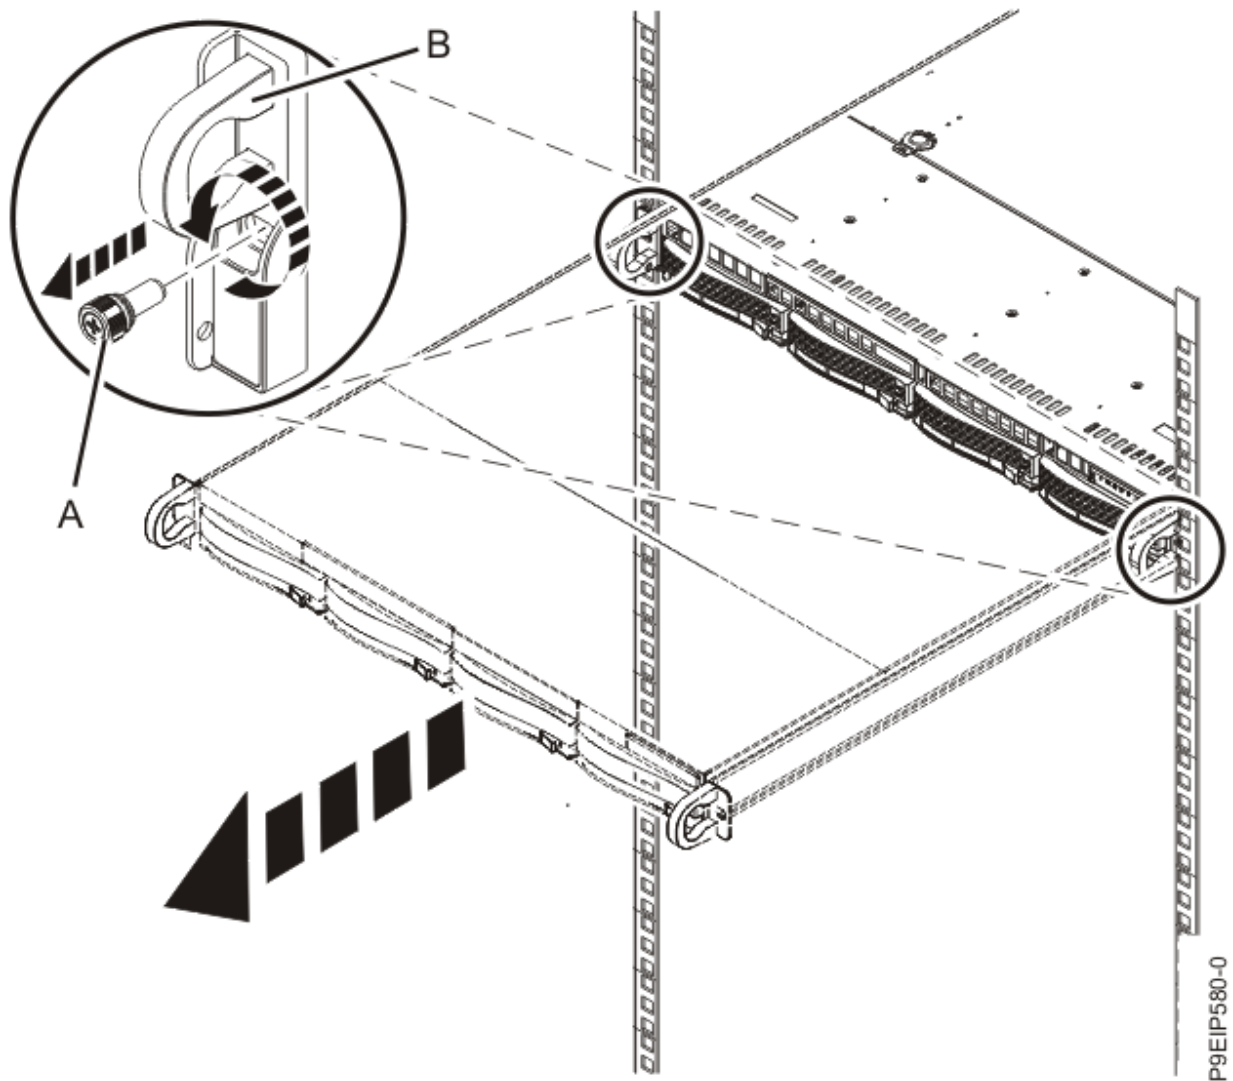

Figure 73. Removing the front screws and removing the system from the rack
2. Remove the front screws **(A)** that secure the system to the rack from both sides of the system as shown in Figure 73 on page 95.